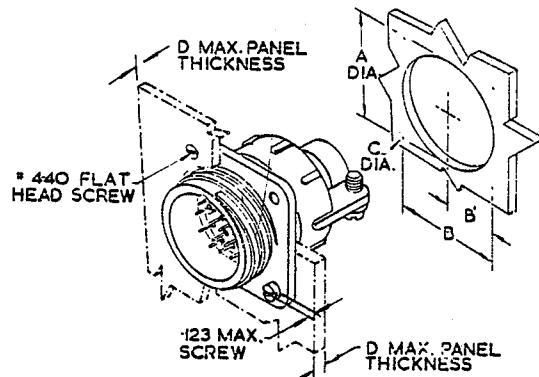

Fig. 4. Large flange receptacle mounting dimensions (Table 4)
11. The method used to mount the large flange receptacles is shown in fig.4. It is not necessary to remove the endbells when the shell is to be front mounted.
Large flange receptacles mounting dimensions (fig. 4)